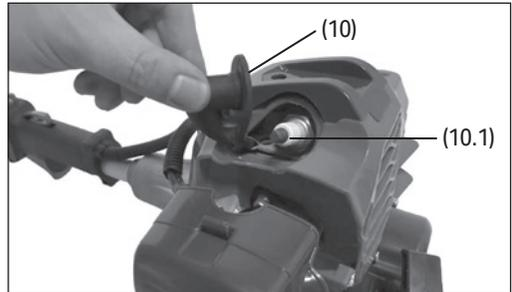
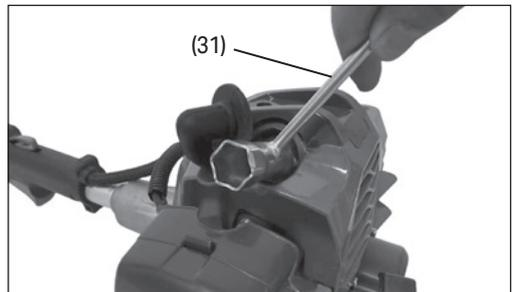

Fig.23
Fig.24
1. Set the choke lever (3) to the closed position to prevent any debris entering the carburettor inlet.
2. Turn the air filter cover lock (2) anticlockwise to release the air filter cover (1).
10.3 Spark Plug Maintenance (Fig.23 – Fig.24)